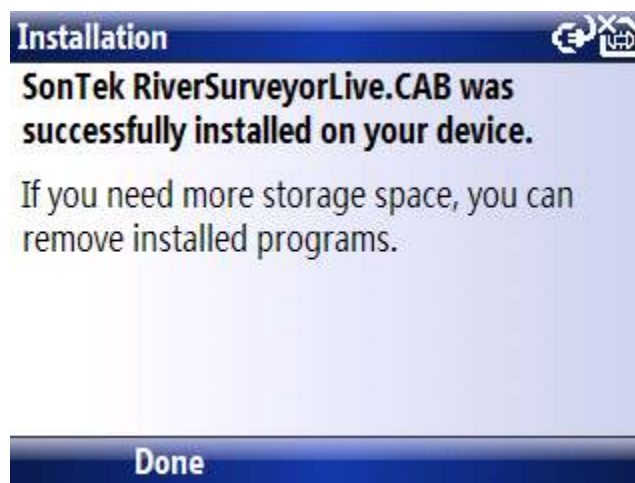

Figure 52. Software Confirmation Window
8. The RiverSurveyor Live application will automatically install on the Mobile device and automatically confirm the installation of the application (Figure 52).